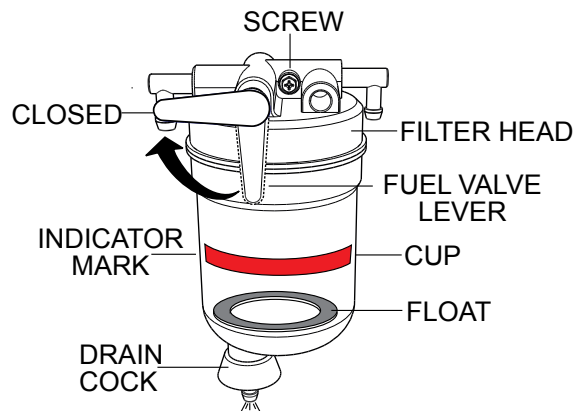

Figure 57. Fuel Filter/Water Separator
Inspect the fuel filter water separator daily. If the fuel filter/water separator (Figure 57) has collected a significant amount of water and sediment at the bottom of the cup (indicator mark), it should be drained off.
As water is collected, the red float goes up. When the float has reached the indicator mark (Figure 57), immediately drain the fuel water separator.
1. Place the Open/Close fuel valve lever (Figure 57) in the **CLOSED** position.